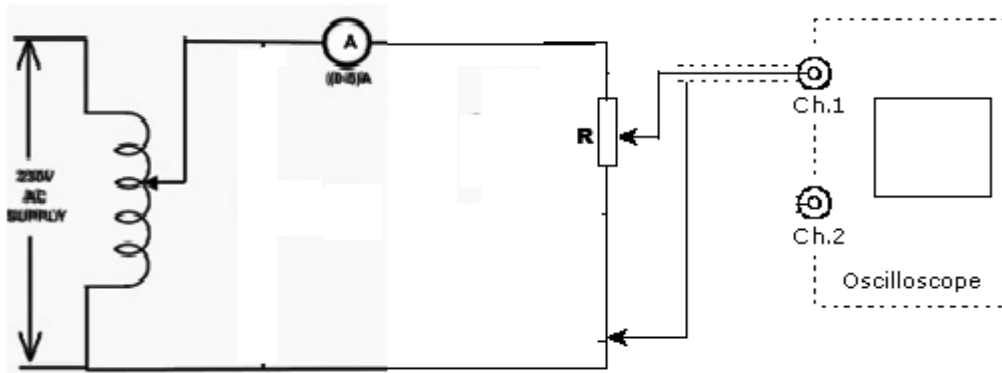

Figure 2 Connection Diagram to measure supply frequency by CRO
1. Connect the circuit as per Figure 2.
4. After obtaining the display of good deflection, count the number of horizontal division for a complete cycle to get the time period (T) of supply voltage. .